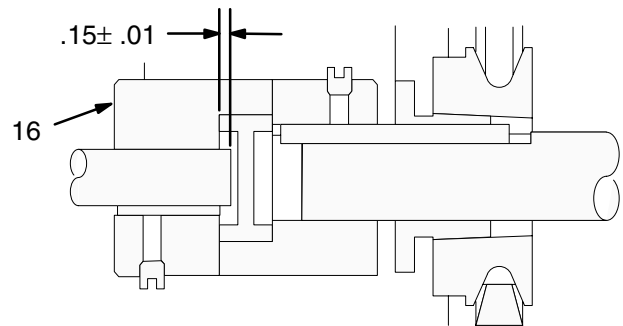

Fig. 17
1. Install elbow (105), adapter (106), elbow (140), and insert (141) on hydraulic vane pump (33).
2. Install nipple (82), and install reducer (valve manifold) (84) on hydraulic vane pump (33).
3. Install hydraulic vane pump (33), reducer (valve manifold) (84), and half of coupler (16). If coupler half has been removed, install coupler half on hydraulic vane pump shaft to dimension in Fig. 17.